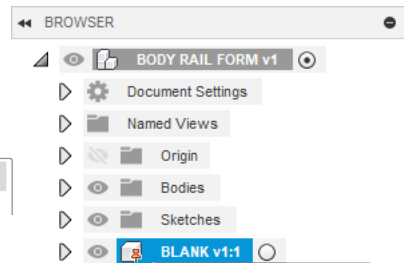

Fig. 4
Step 7. **Right click Blank**  and click **Break Link** Fig. 4.